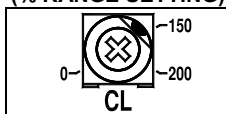

FIGURE 8
5.2 IR Compensation Trimpot (IR): Be sure the appropriate Plug-In Horsepower Resistor® is installed, in accordance with Table 3 on page 2. The IR Trimpot sets the amount of compensating voltage required to keep the motor speed constant under changing loads. If the load does not vary substantially, the IR Trimpot may be set to a minimum level (approximately 1/4 of full clockwise rotation). To increase the amount of compensating voltage, rotate the IR Trimpot clockwise. To decrease the amount of compensating voltage, rotate the IR Trimpot counterclockwise. See Figure 8 on page 3.